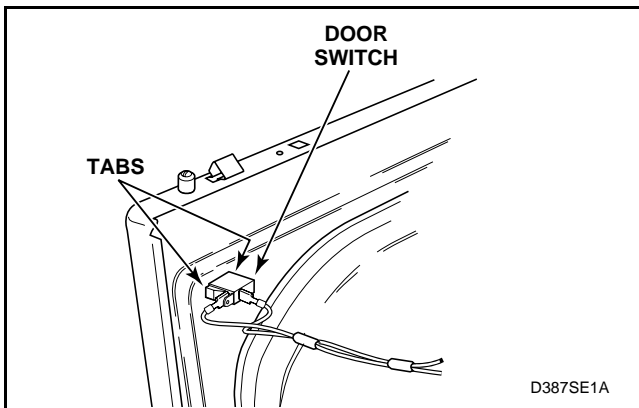

Figure 18
- Disconnect wires from door switch. See Figure 18.
- Depress tabs on switch and push out of front panel. See Figure 18.
- d. Disconnect wires from door switch. See *Figure 18*.